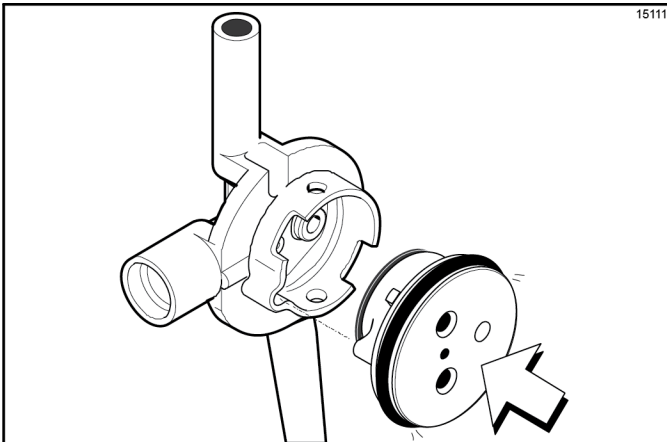

Figure 6-34
7. Insert the valve cap into the hole in the mix inlet adapter. (See Figure 6-34.)